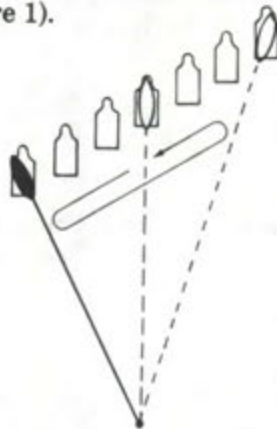

Figure 2.
b. **Linear Target with Depth.** The gunner must engage the entire width and depth of the target. He lays his gun on the center of mass, or portion of the target which presents the greatest threat. The gunner traverses and searches to the flank closest to his position, then covers the entire target (figure 2).